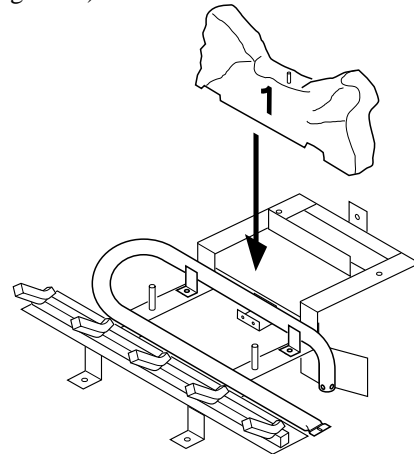

Figure 45 - Installing Log No. 1
- Place log #1 (rear log) on top of grate. Make sure the notches in the bottom of the log fit over the grate (see Figure 45).